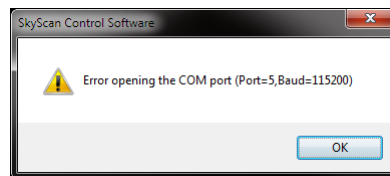

Figure 9: Error Opening Serial Port
- If the serial port couldn't be opened because it is either already open in another program or it doesn't exist anymore (e.g. the SD1000U Bluetooth USB adaptor has been detached from the computer), you will get a message similar to the one in Figure 9.